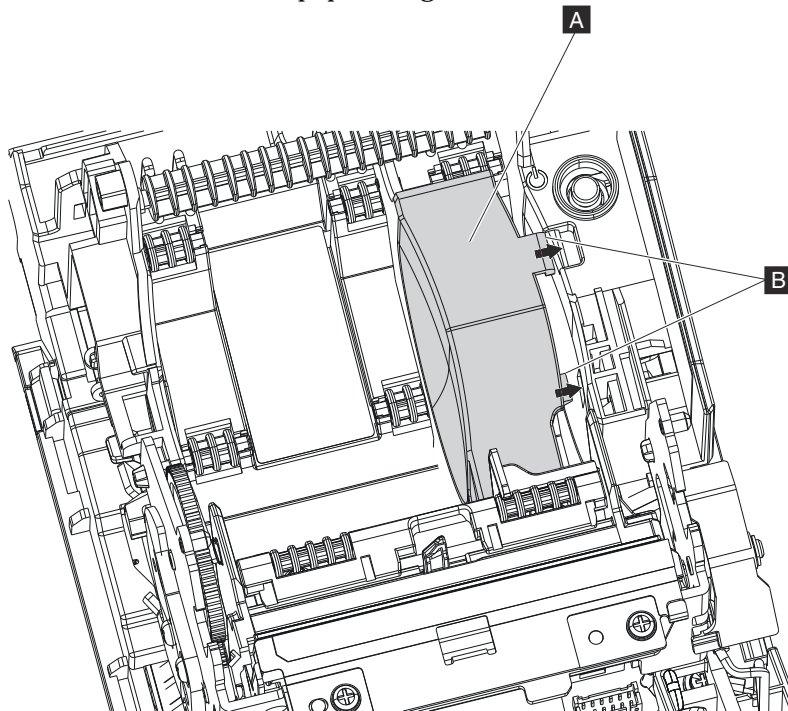

Figure 1. Installing the paper roll guide
2. Align and insert the paper roll guide tabs **B** into the slots on the right side of the printer, as shown in Figure 1.